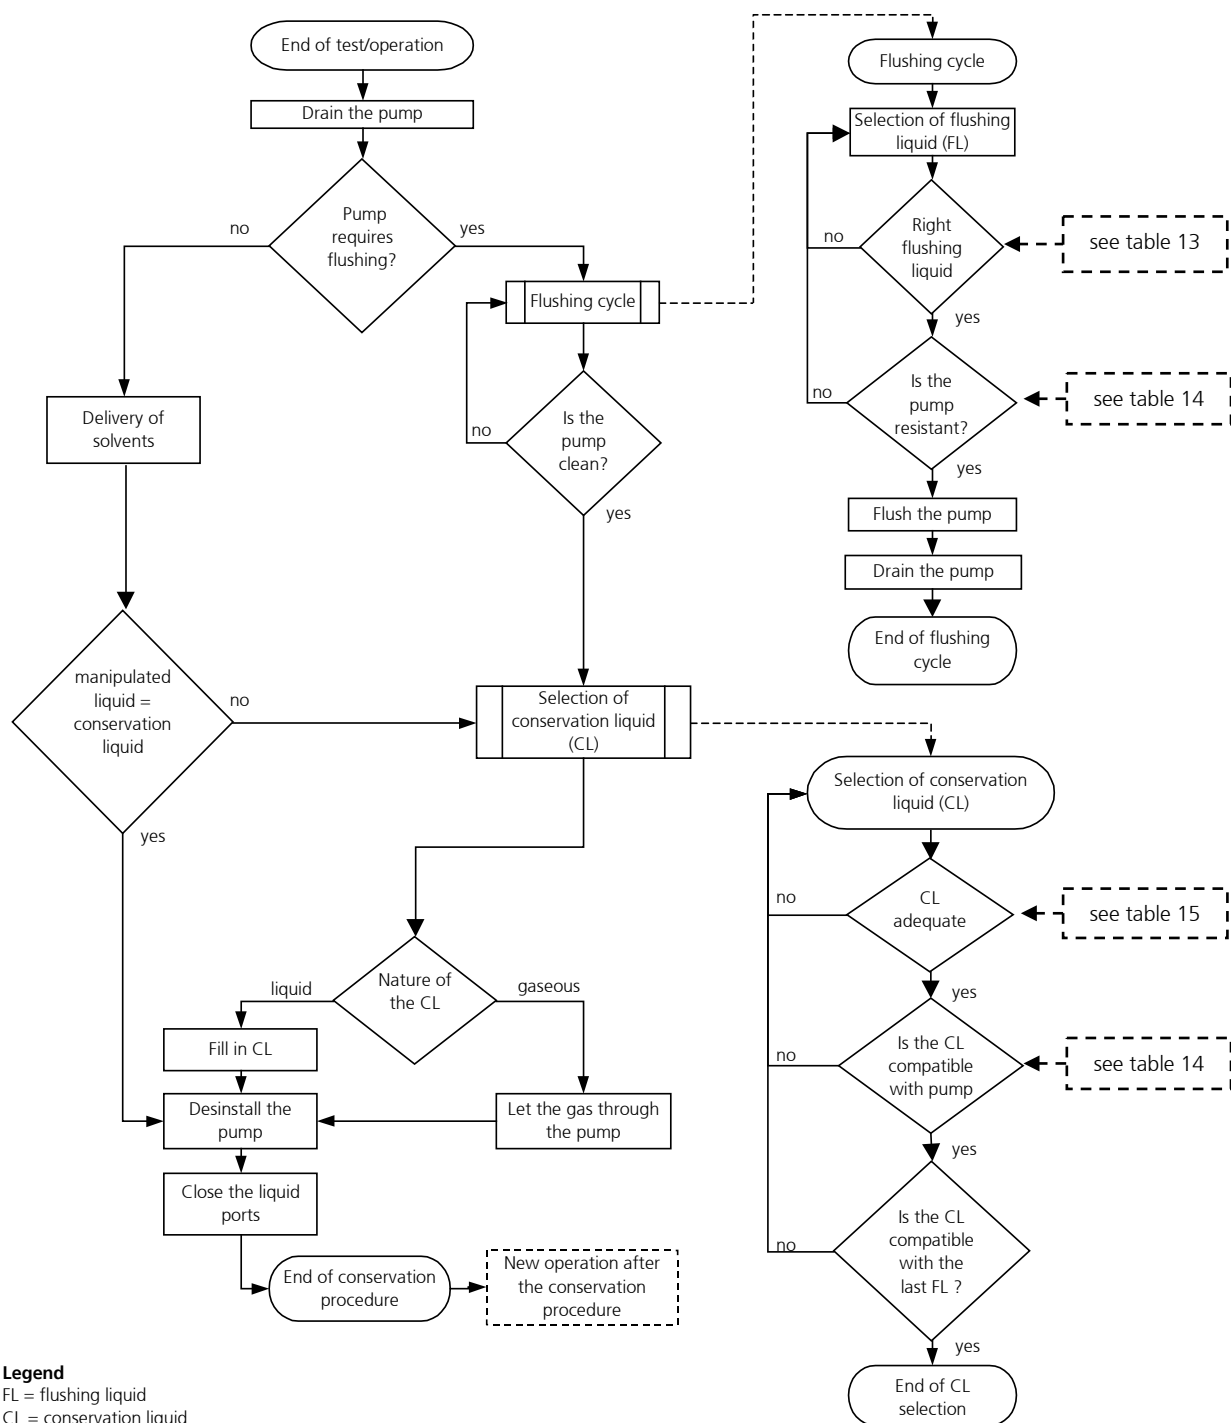

figure 13
By proceeding as shown in the diagram (see figure 13) you may prepare the pump for a longer standstill.
*Remark:* This diagram is repeated as a part of the figure 13 (shutdown procedure of the micro annular gear pump).